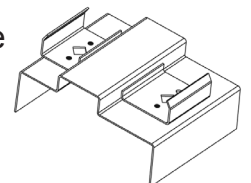

FIGURE 4
Position mullion bracket so scribe line centers in diamond window and the depressed tab rests firmly against the stop on the 1-3/4" (44) & 1-3/8" (35) rabbets. (Figure 4)